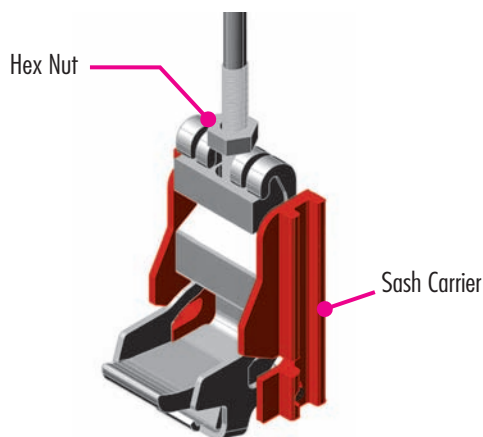
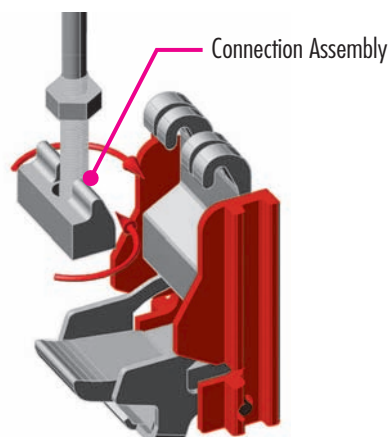

FIGURE 2
FIGURE 3
3. Disconnect connection assembly from the Sash Carrier Assembly (Reference figure 2 & figure 3).